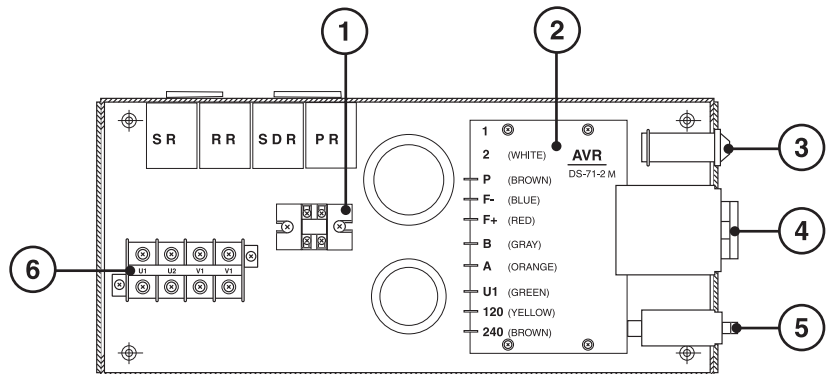

Figure 24: Control Box Components.
3. Generator excitation is provided by residual magnetism and electrical output voltage is controlled by the automatic voltage regulator (AVR) located in the control box (Figure 24, Item 2).
CONTROL BOX (Figure 24)